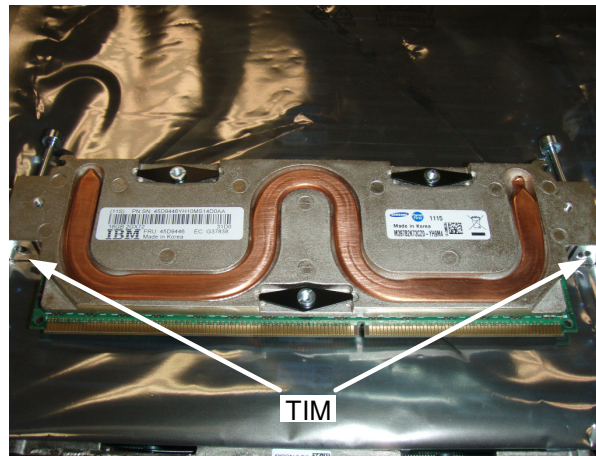

Figure 39 DIMM details showing TIM
STEP 53 Once the DIMM is removed, ensure that both pieces of Thermal Interface Material (TIM) are on the DIMM, see Figure 39. (The TIM is conductive. Ensure that the TIM does not fall into the CEC Drawer.)